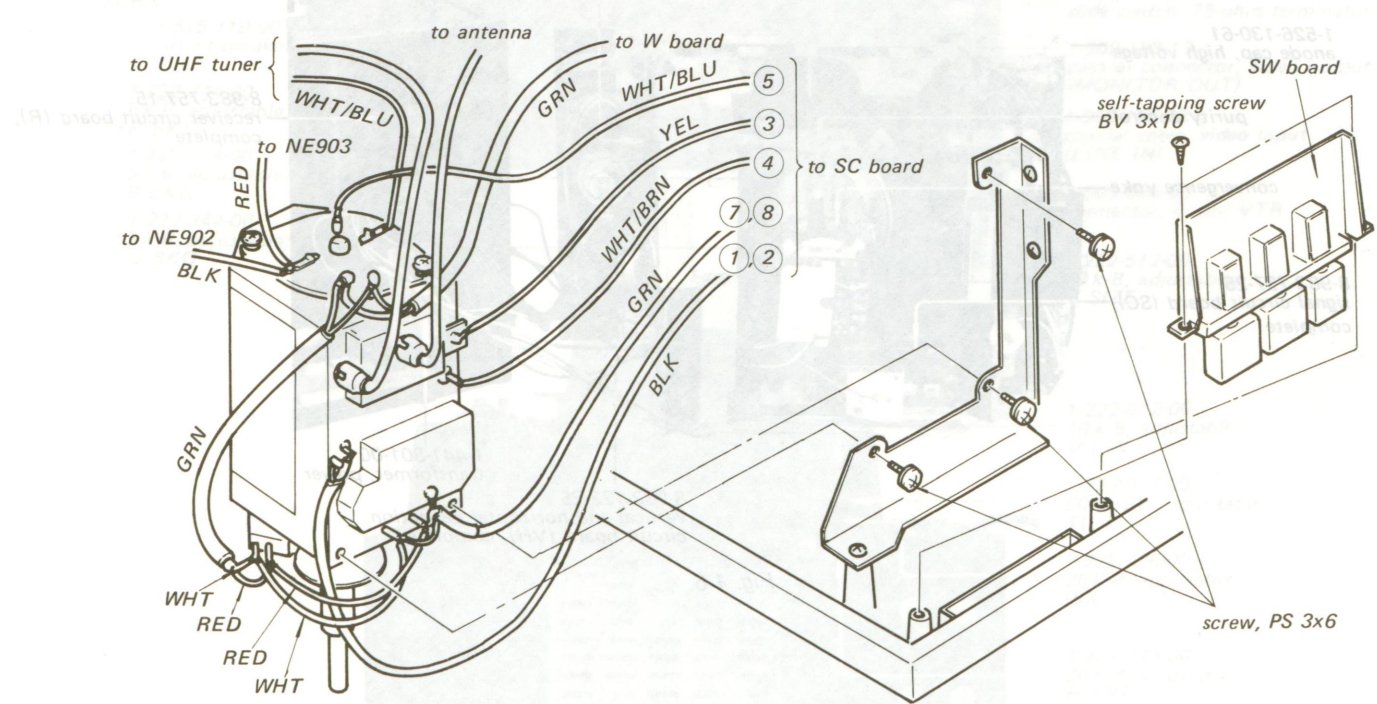

Fig. 2-2.
2. Remove the SW board as shown in Fig. 2-2.